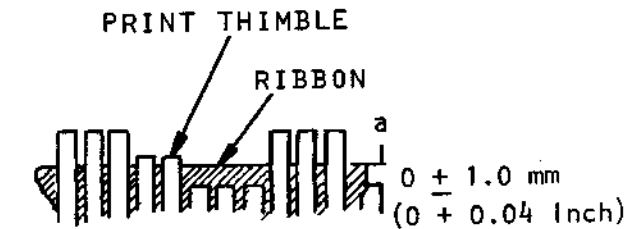

Figure 5-6 Visible Position Adjustment
- Refer to Figure 5-6. Verify that the gap between the ribbon top edge and the print thimble top edge is $0 \text{ mm} \pm 1.0 \text{ mm}$ ($0\text{-inch} \pm 0.04\text{-inch}$). This check may be done visually.